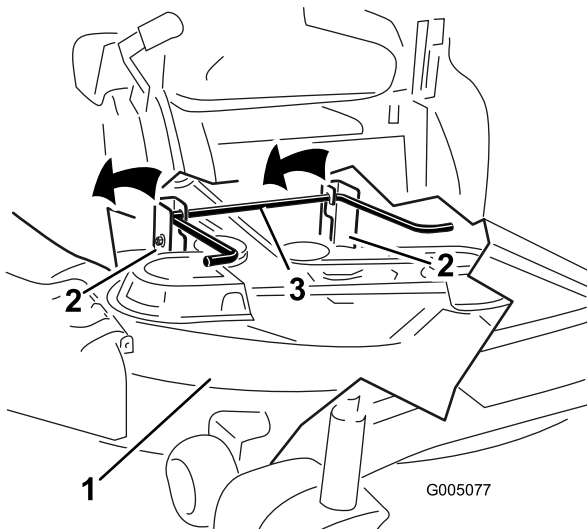

Figure 60
5. Lift the mower deck and hanger brackets clear of the rear lift rod and lower the mower carefully to the ground (Figure 60).
- Lift the rear of the mower deck and guide the hanger brackets over the rear lift rod (Figure 60).